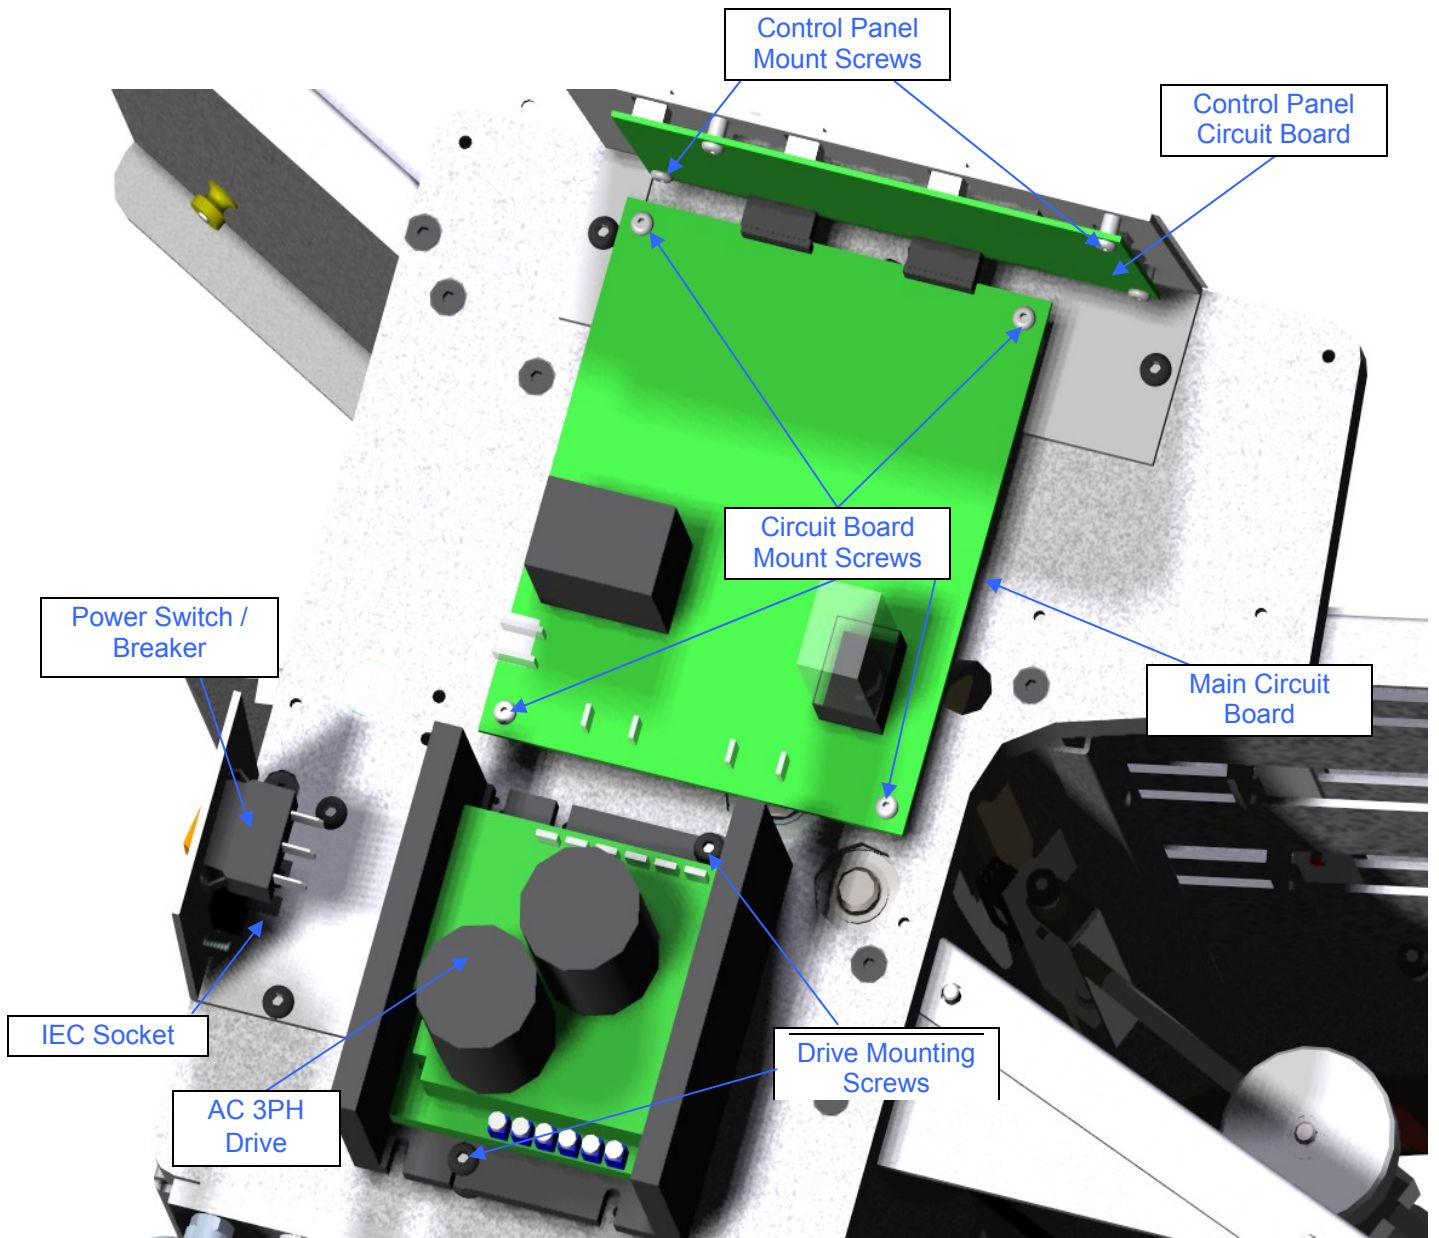

Figure 4: Electrical Side Frame
3. Remove the **Drive Mounting Screws** and move the **Drive** out of the way [Figure 4].
10. Slip the **Motor Ground Wire** over the **Ground Screw** and re-attach it [Figure 4].